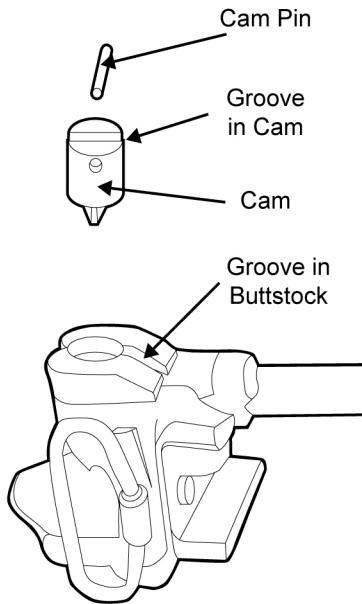

Figure 41. Removing the Cam and Cam Pin from the Side Folding Buttstock.
a. Remove the release lever from the cam and remove the cam from the side folding buttstock. DO NOT remove the cam pin from the cam unless replacement is necessary. Remove cam pin by pushing it out of the cam with a punch. Refer to Figure 41.